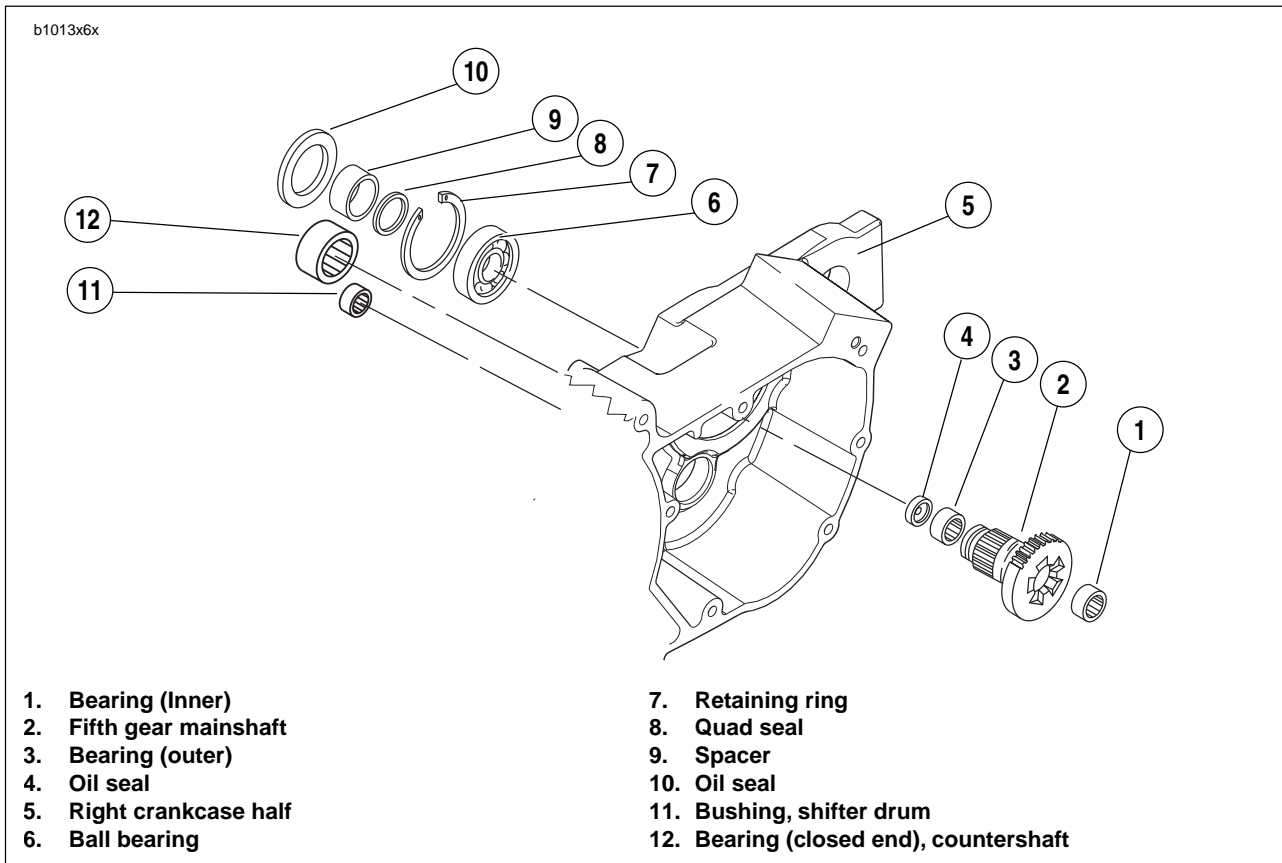

Figure 6-77. Transmission Assembly Right Crankcase Half
5. See Figure 6-77. Place **new** quad ring over threaded end of fifth gear, and position next to the gear taper. Install spacer over threaded end of fifth gear with chamfered end toward quad ring. Slide spacer up against bearing.
See Figure 6-77. Refer to *Transmission assembly right crankcase half*, for location of items discussed on this page.
2. See Figure 6-77. Remove main drive 5th gear. Use MAIN DRIVE GEAR REMOVER AND INSTALLER (Part No. HD-35316A). See 6.11 MAIN DRIVE GEAR.
2. See Figure 6-77. From the outside of the case place the needle bearing open end first next to the bearing bore. Hold the driver squarely against the closed end of the bearing and tap the bearing into place. The bearing is properly positioned when it is driven inward flush or 0.030 in. (0.762 mm) below the outside surface of the case.
1. See Figure 6-77. The shifter drum bushing (11) is a press fit in the right crankcase half. Inspect the bushing against the corresponding end of the shifter drum for proper fit and wear.